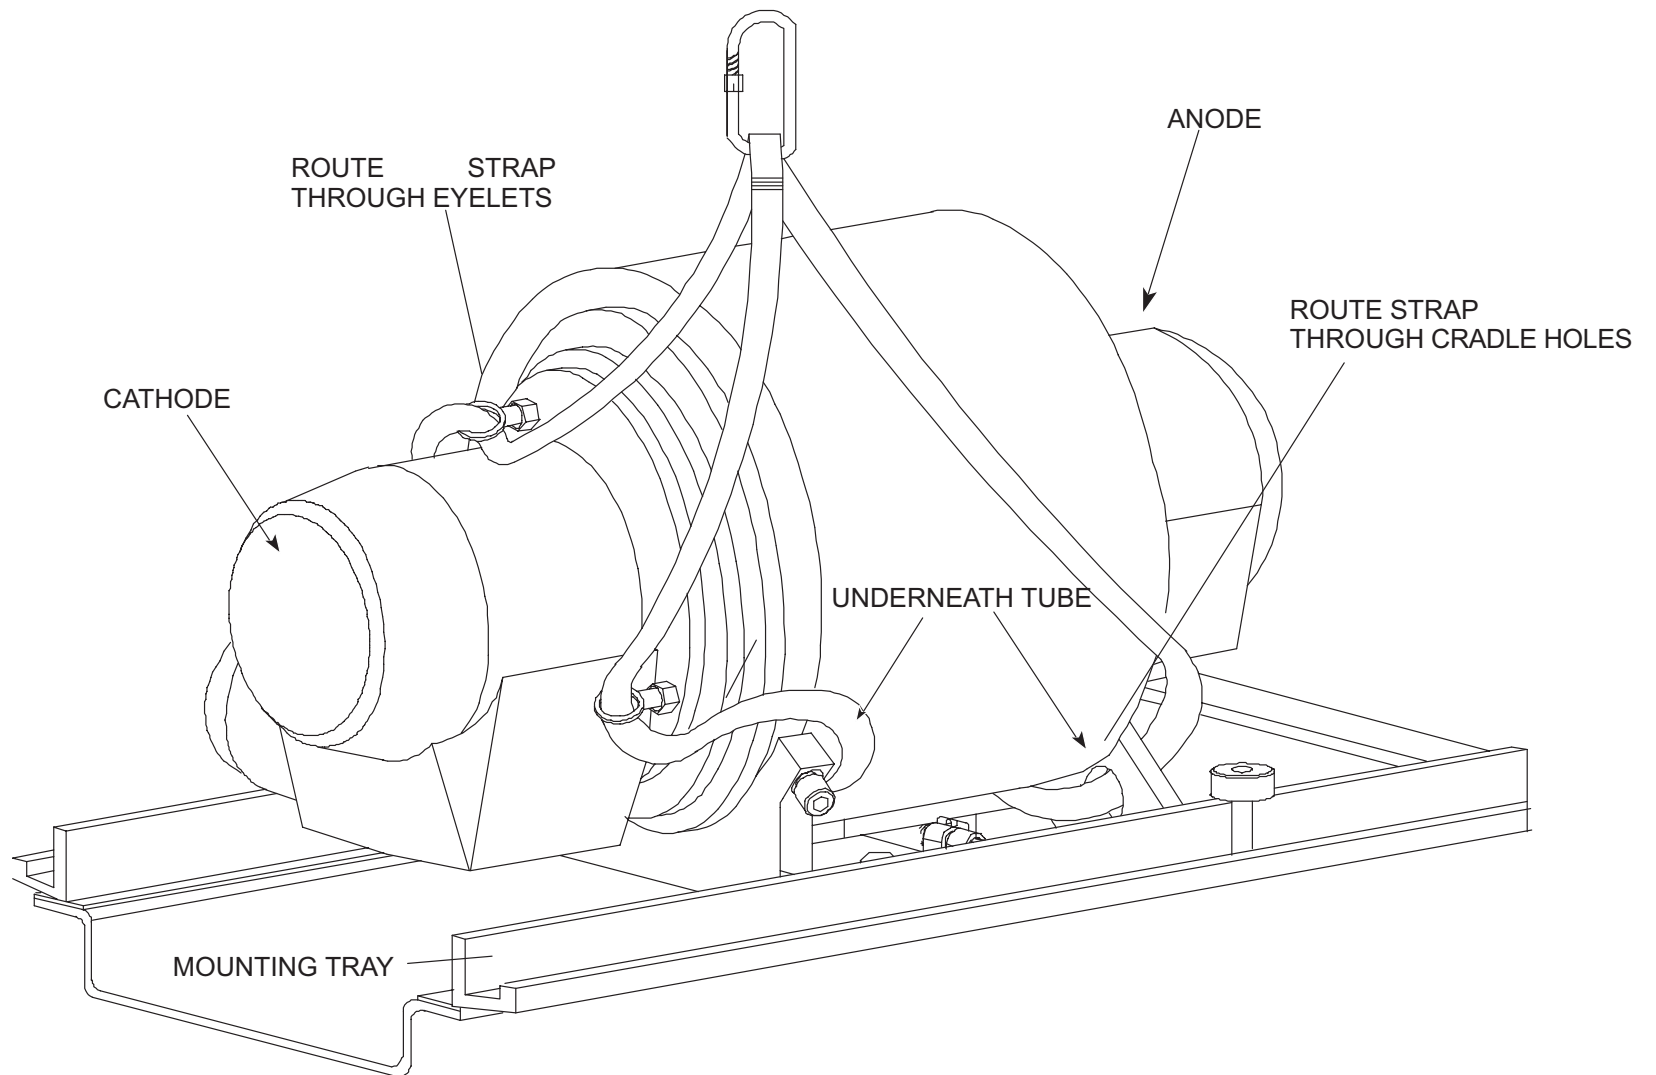

FIGURE 252 LIFTING STRAP ROUTING
10. Remove Hose Clamps and any Tie Wraps securing Oil Hoses to Scan Frame. Pull X-Ray Tube out along mounting tray (6"–10" max) in order to route Lifting Strap through Cradle Holes. See Figure 252.
11. Route Lifting Strap through one eyelet, under X-Ray Tube and up other side through other eyelet. Route second Lifting Strap through one Cradle hole at other end of X-Ray Tube, under X-Ray Tube and through hole on opposite side. Refer to Figure 252.
26. Remove the Lifting Straps from the eyelets. Reposition one strap through one eyelet, under X-Ray Tube and up other side through other eyelet. Route second strap through one cradle hole, under X-Ray Tube and through hole on opposite side. Refer to Figure 252.
29. Check Cables for clearance around the Tube. Push the Tube all the way back onto the Tube Shelf, ensuring the Cradle Assembly is seated on the Key Block. Refer to Figure 252.